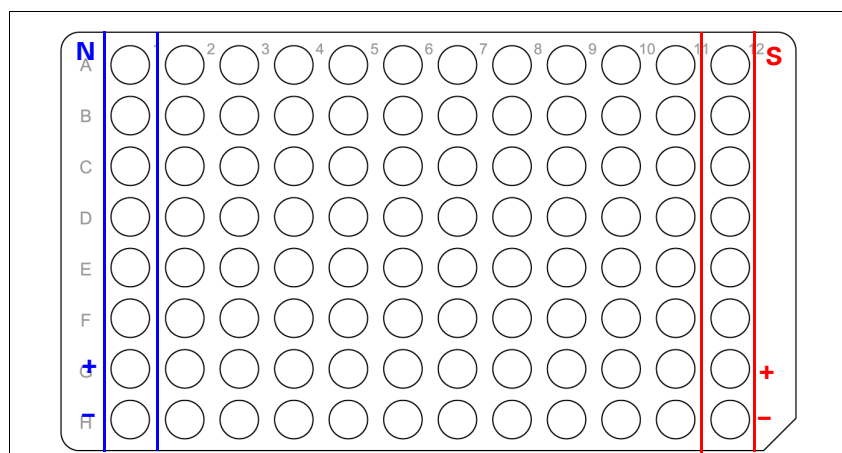

Figure 4.4 Marking a 96-well plate for Nsp and Sty digestion and ligation
- Mark a 96-well plate as shown in Figure 4.4 [use a blue marker for Nsp (N) and a red marker for Sty (S)].